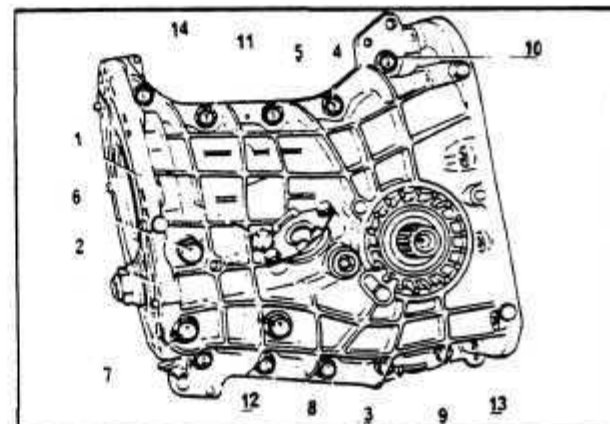

Fig. 69 HALF CASING BOLTS
5. Remove the half-casing assembly bolts. With the final drive positioned as shown, remove the upper half-case. *Fig. 69*